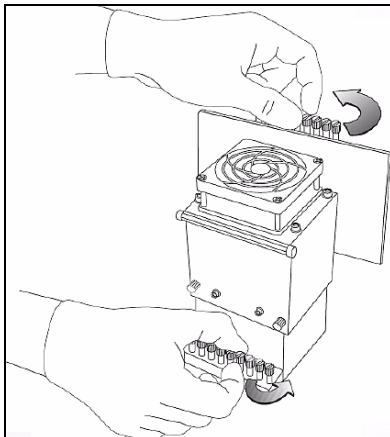

Figure 6-58: Releasing the locking screws
17. Tighten the upper and lower screws that secure the print head in the print block (see figure 6-58 on page 43).